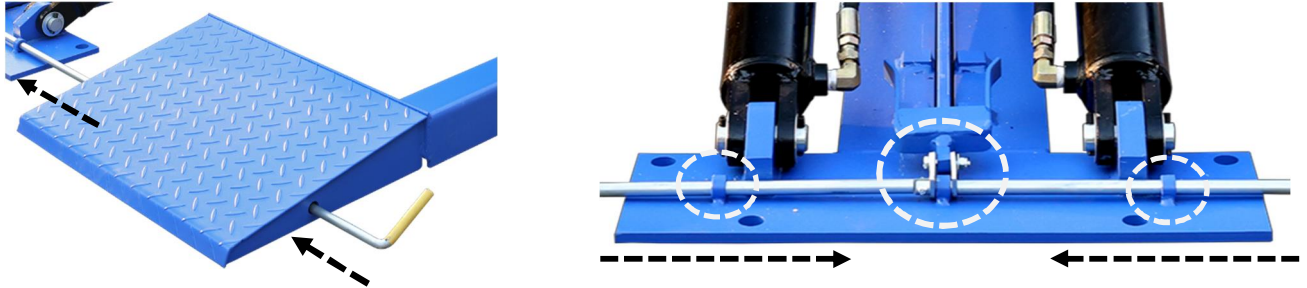

Fig. 10
- 1) Insert the left & right side **latch release bars / handles** through each side of pad lift outer ramp bases and through the ring guide weldments to engage the center safety latch mechanism. **Fig. 10**
- 2) Once latch bar center ends are positioned & keyed together, use M6 x 16mm screw to secure them together. **Fig. 10**.